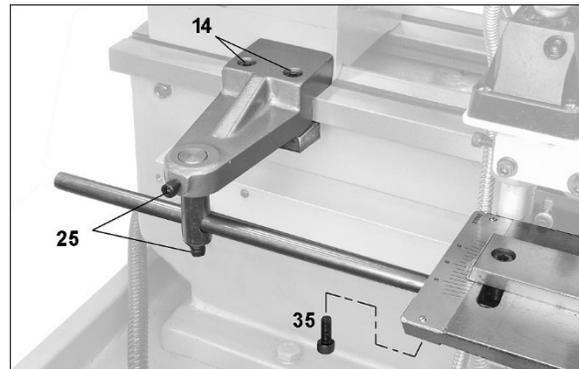

Figure 3
- Install clamp to bedway, along with rod and pivot, as shown in Figure 3. Secure rod to end of slide base with screw (#35). Tighten screws (#14,25,35)